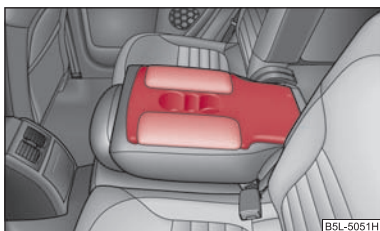

Fig. 68 Rear seats: Armrest
- The middle seat backrest can be folded ⇒ page 70, "Folding rear seats forwards" forwards and used as armrest or table with cup holder ⇒ fig. 68.